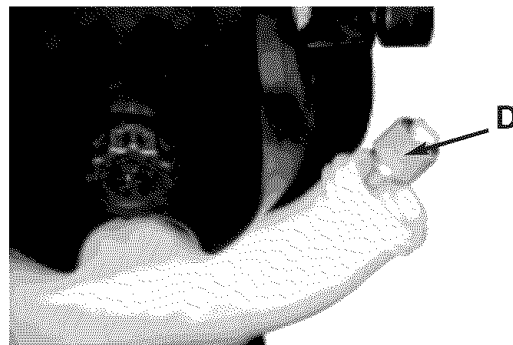

Fig. 24
2. Pull filter (D) off with a twisting motion. (Figure 24)
3. Replace fuel filter (D). (Figure 24)
3. Clean and gap spark plug or install a new spark plug with proper gap. (Fig. 24)